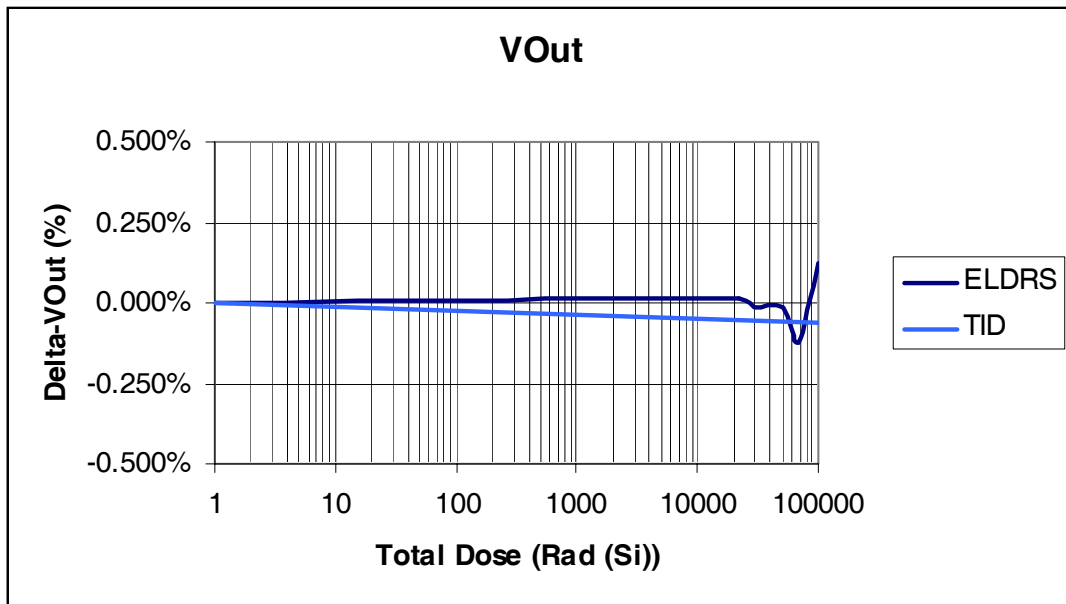

Fig. 5. Change in Output Voltage vs. Total Ionizing Dose Radiation Exposure at Both High and Low Dose Rates
- ① Tested to 500Krad (Si).
- ② See Fig. 5.